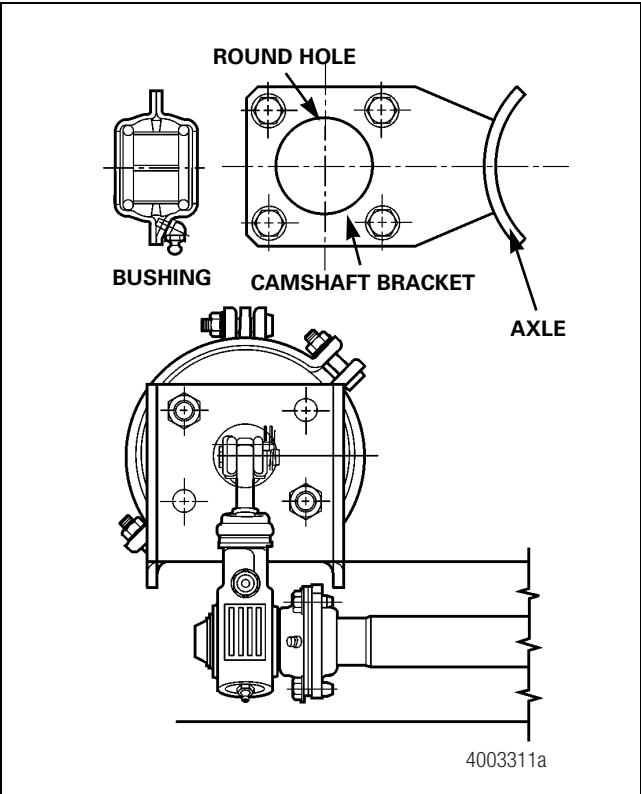

Figure 12.10
- An arrangement used in the past consists of a bushing with a 90-degree grease fitting installed onto a camshaft bracket with a round hole. When assembled, the grease fitting is oriented toward the slack adjuster. Figure 12.10.